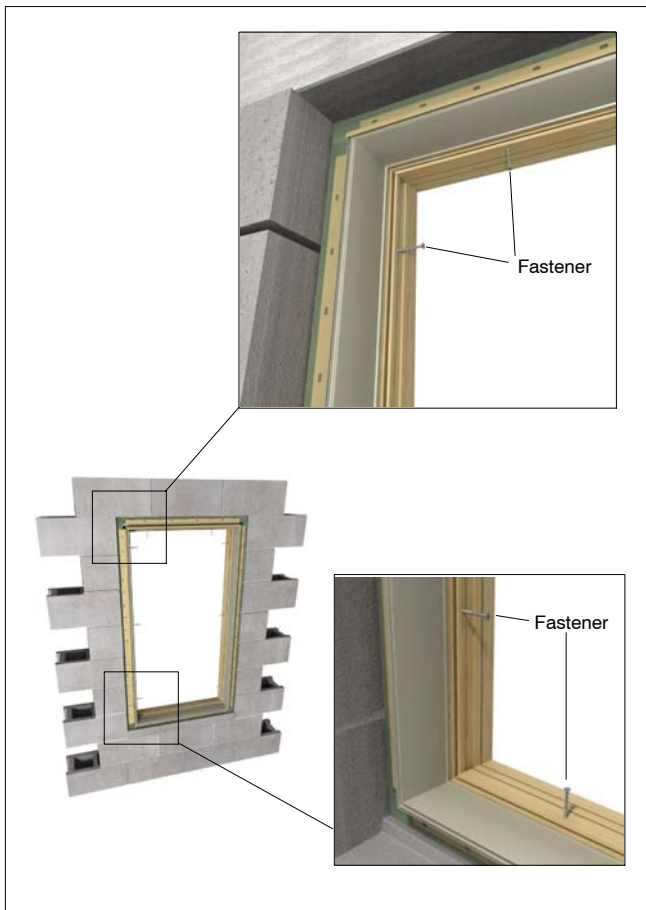

Figure 9: Exterior view, fastening through Casemaster frames.
1. After removing covers or liners, fasten units to the framing with #8 wood screws or 3/16" concrete anchors1. Adjust length of fastener so that it penetrates no less than 1 1/4" (32) into framing/opening. When fastening through the sill, always pre-drill and fill hole with sealant before driving the screw. Always place a shim behind or above the screw location on jambs and head jambs.
2. On **Casemaster** units, position the screw so that it misses any operating hardware (if applicable). With typical installations, you should be able to locate the screw in the center groove in the frame and just to the exterior of the kerf that holds the head jamb stop. See figure 9.